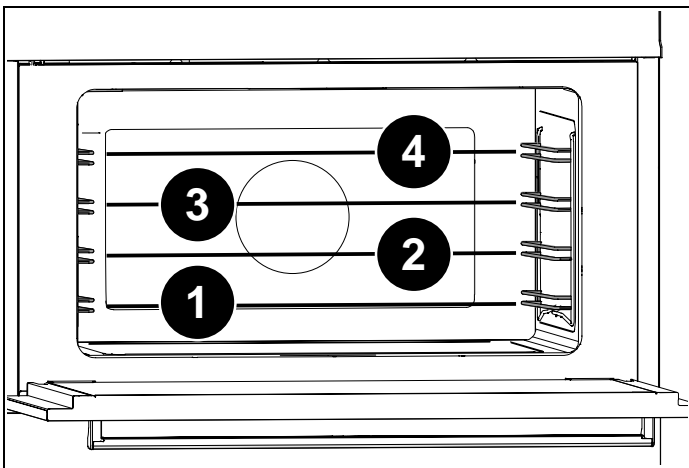

Fig. 30
- 4) Insert the spit support into the side runners at level 2 (Fig. 30). Put the food on the spit and place the entire assembly in the oven, engaging the tip of the spit with the shaft that protrudes at the rear of the oven.